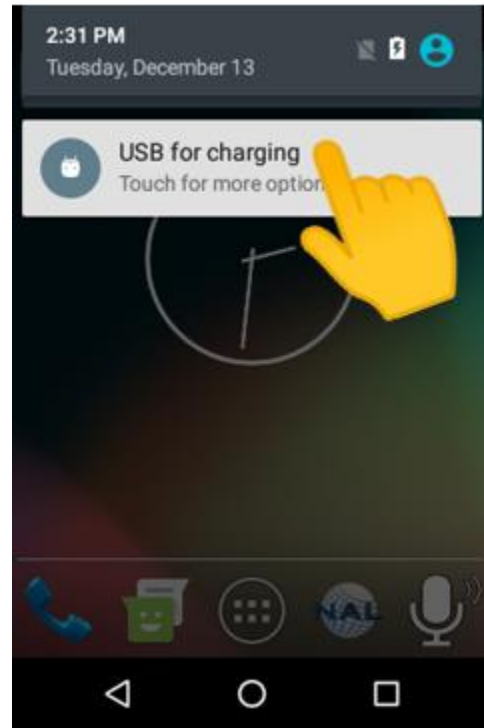
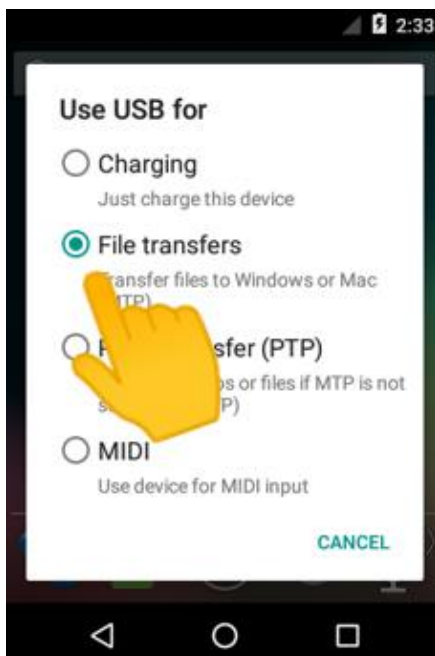

Figure 78: Tap USB for charging
Figure 79: Select File transfers
4. Tap **USB for charging** (see **Figure 78**), and select **File transfers** (see **Figure 79**).